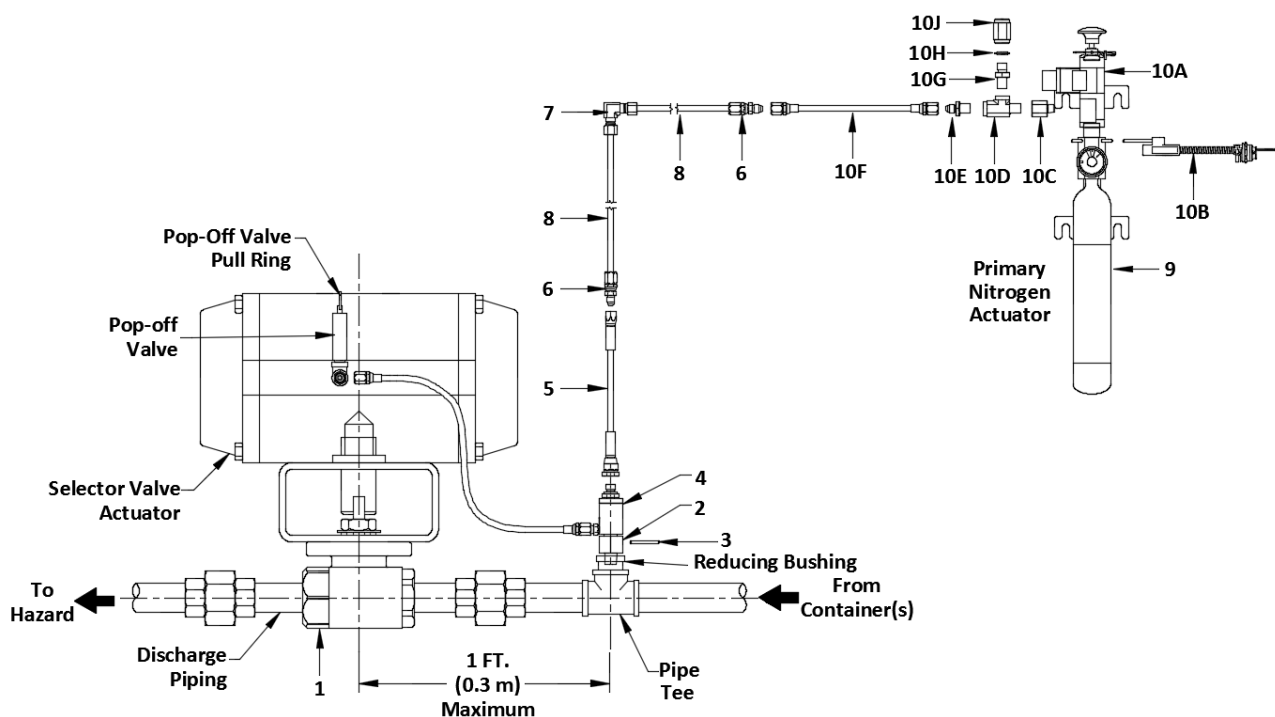

Figure 69 - Selector Valve with Pneumatic Relay Installation
- Verify that discharge nozzles are mounted in a vertical position, facing either up or down, as shown in Figure 69.